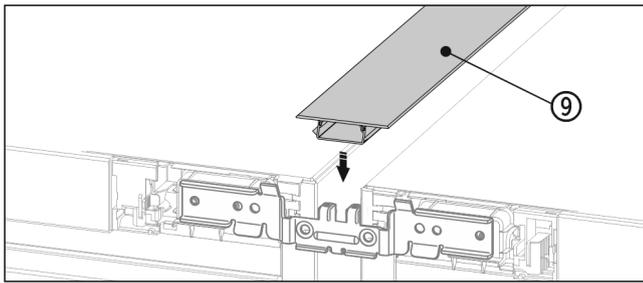

Fig. 21
- ▶ On the top press the short cover strip Fig. 21 (9) into the horizontal gap.